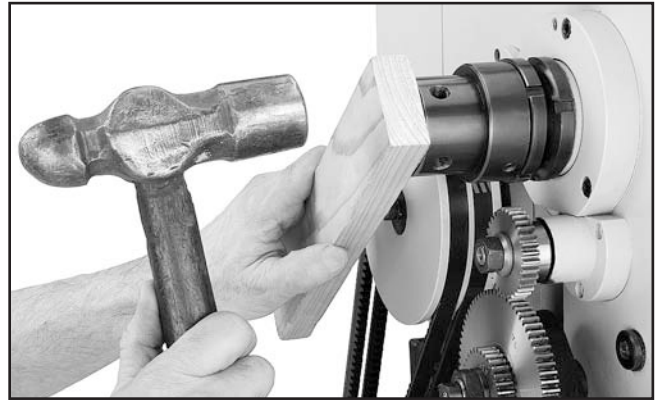

Figure 108. Un-seating spindle bearings to introduce spindle end-play.
- Since the spindle bearings may unseat easily without great force, hold a wood block against the outboard end of the spindle, and tap the block a few times with a three or four pound hammer (see **Figure 108**). Your goal is to slide the spindle forward just enough to introduce spindle end-play that can be heard or felt by hand.